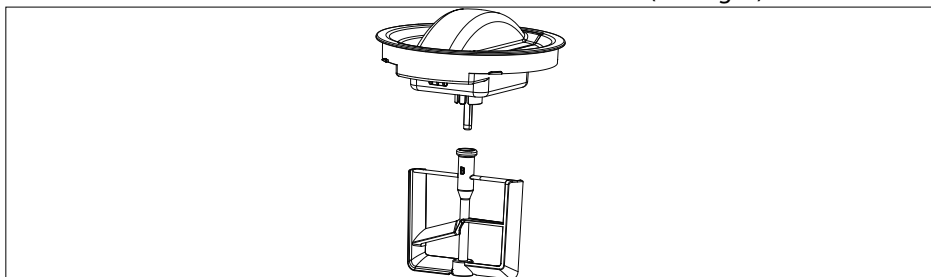

Fig. 6
- ▶ Mount the stirrer on the drive shaft of the motor block (see Fig. 6).